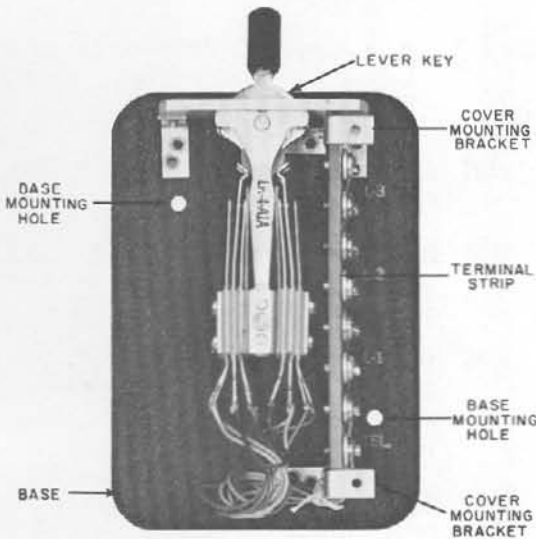

Figure 2. A. E. Co. MC-8885-A Three-Line
LK-4-A1A (Figure 2), and an eight-terminal
- (2) Unscrew, and remove the handle from the lever key.
- (3) Remove the cover by pulling out the bottom end and sliding it up, free of the lever key.
- (4) Fasten the key to a wall, desk, etc., using appropriate screws through the two base mountingholes (Figure 2).
- (5) After the desired connections have been made to the terminal strip, replace and fasten the cover, and replace the lever key handle.